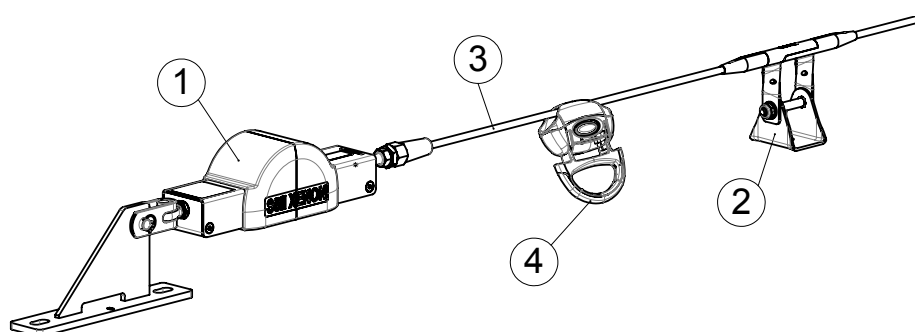

Fig. 1.1
The Söll XENON anchor device is a horizontal lifeline system with a maximum incline of 15° which fulfils the requirements of EN 795:2012 type C. The purpose of this anchor device is to secure up to 7 persons against falls from height and simultaneously provides them with a great freedom of movement. The cable guide can be designed to be straight or curved to 90°. The distance between two Söll XENON intermediate brackets(2) can be between 2 m and depending on the cable type up to 20 m. The energy absorber(1) mounted at the end of the cable(3) allows absorption of cable forces via “energy dissipation”. Special shuttles(4) are used for connecting a user to the cable, which allows the user to pass the intermediate brackets and corners without disconnecting from the cable. (see fig. 1.1)